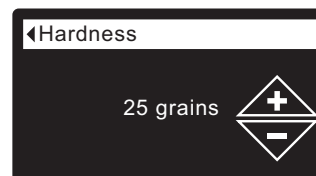

FIG. 52
5. Press the SELECT (O) button to display the Hardness screen (See Figure 52).